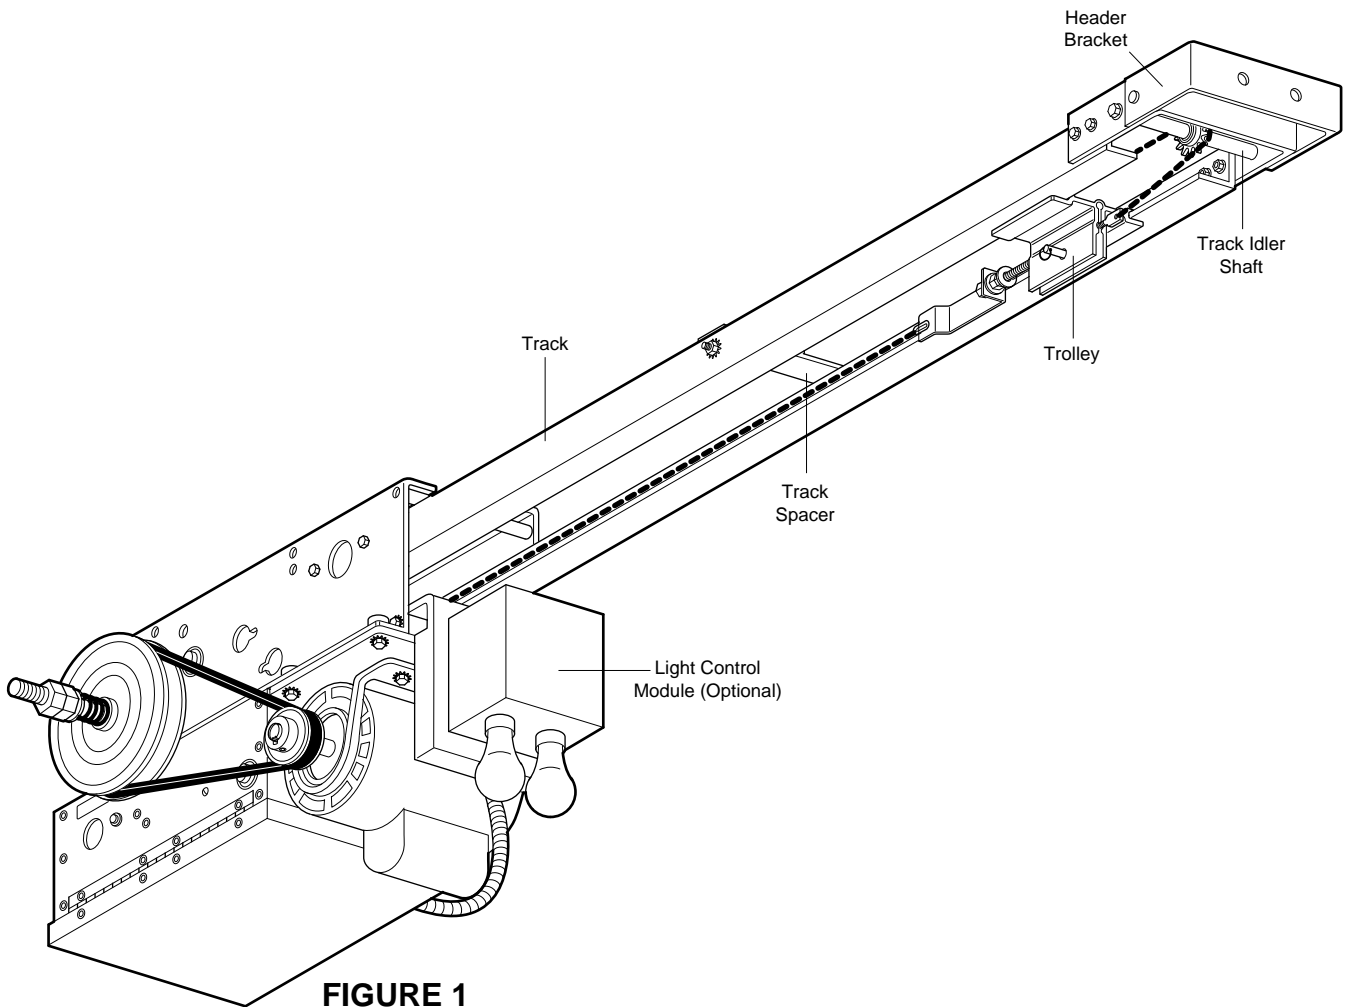

FIGURE 1
1. Fasten track to the operator frame. **DO NOT TIGHTEN BOLTS.** See Figure 1.
3. Place idler shaft bracket over end of track. There are two holes on each side of bracket (Fig. 1). Fasten shaft bracket to end of rail assembly.